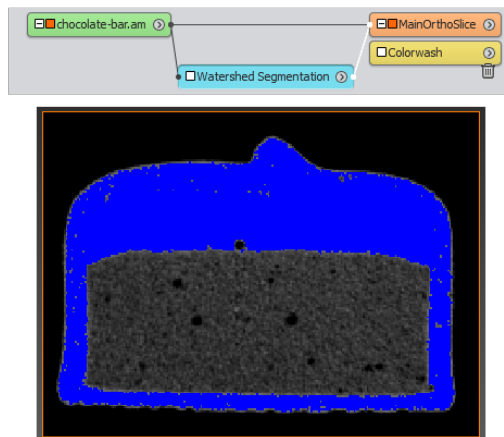

Figure 6.79: The *Watershed Segmentation* wizard at step 6.
- You can use 1041-1910 as range here (see Figure 6.79). The mousse area should be avoided as much as possible.